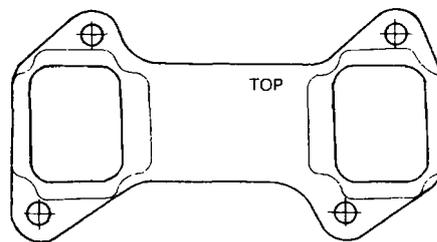

Figure 18 Exhaust Manifold Gasket Installation
- b. Position the new exhaust manifold gaskets on the cylinder head so that the word TOP is toward the manifold (Figure 18).